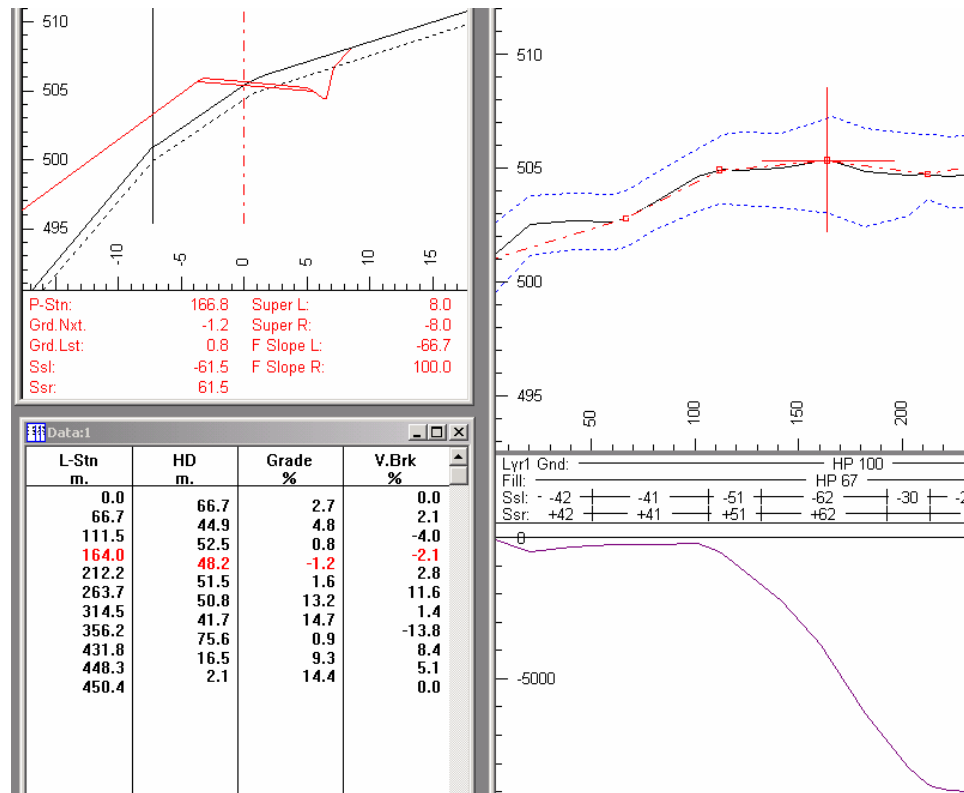

Figure 5.26: Excessive Fill Before Vertical Alignment
4. Use the *Next IP*  button in the Vertical Curves panel to move along the alignment. Watch the Section window and keep moving until you get to station 164 (see Figure 5.26).